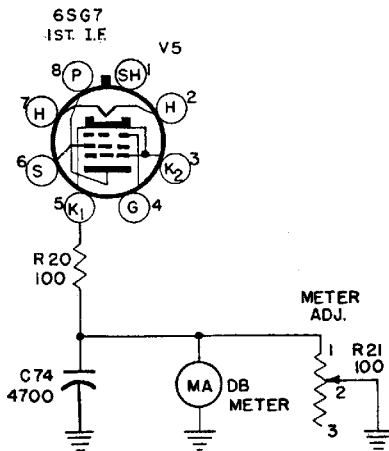

Figure 2—DB Meter Installation, Schematic Diagram
(2) Unsolder the brown-black lead from grounded terminal 2 on socket X 13 and solder to terminal 1 on R21 variable resistor (⊗). See Figure 2.